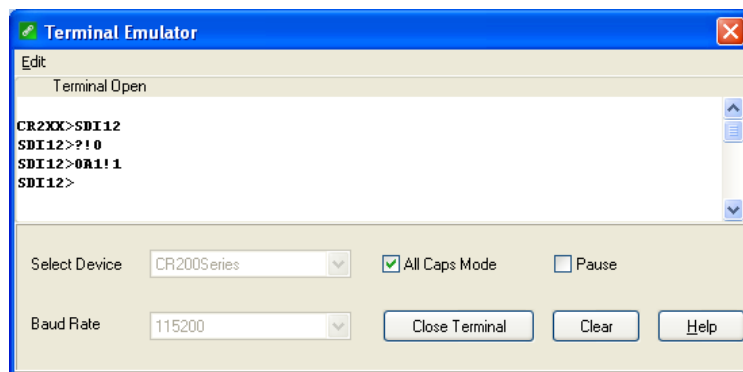

FIGURE D-1. CR200(X) example of using the SDI-12 transparent mode to change the SDI-12 address from 0 to 1.
6. To change the SDI-12 address, key in *aAb!<enter>*, where *a* is the current address from the above step and *b* is the new address (see FIGURE D-1). The sensor will change its address and the datalogger will respond with the new address. To exit SDI-12 transparent mode, select the **Close Terminal** button.